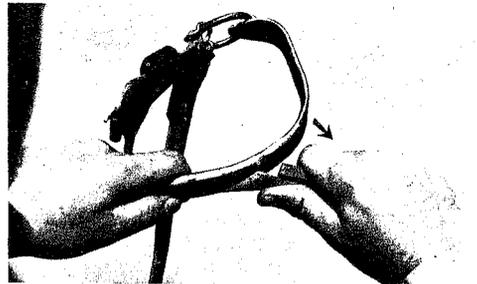

Fig. 20—Honing Inner Surface
7.04hone the inner surface of the gaff by starting the stroke near the leg iron and continue over rounded curve of tip as indicated in Fig. 20 Stop the honing stroke before the stone slides off the end of the gaff to prevent dulling the tip. About 20 to 25 strokes of the honing stone should be enough.